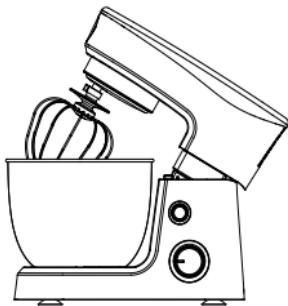
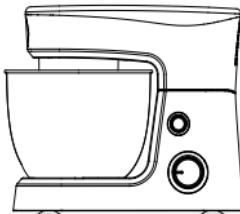

Figure 1
Figure 2
- Place the mixing bowl (5) on position. First place the bowl on the base, then turn the bowl in clockwise until it locks into the right position (see fig.1).
- To lower the head and place mixing attachment (6/7/8) into the bowl (5) by holding the head (1) with one hand and easing the head down. A click sound will be heard when the head has reached the correct position.
- And make sure the bowl protective lid (10) in place (see fig.2).